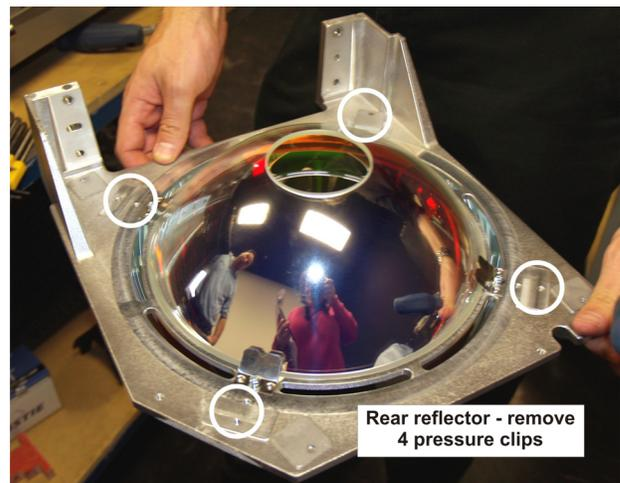

FIGURE 1-57 REMOVE REAR REFLECTOR
9. Remove the rear reflector by removing 4 pressure clips (#2 Phillips). (Figure 1-57)